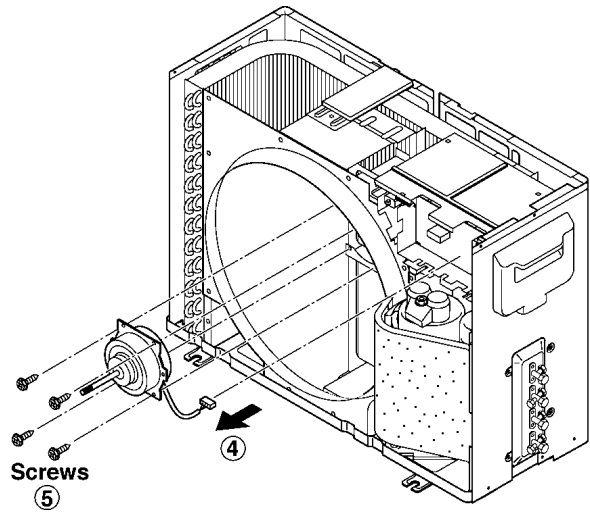

Fig. 29
5. Remove the motor by releasing four screws. (Fig.29)